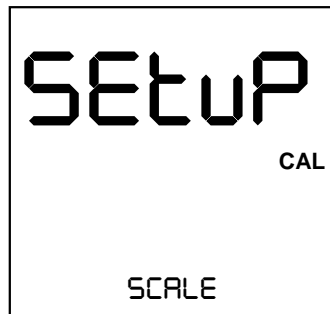

Figure No. 11
1. With the power off, remove the two (2) screws from the right end cap (as viewed from the MV1 back) and remove the end cap.
2. Locate the calibration switch (access is through a hole near the bottom of the side panel. See Figure No. 11.